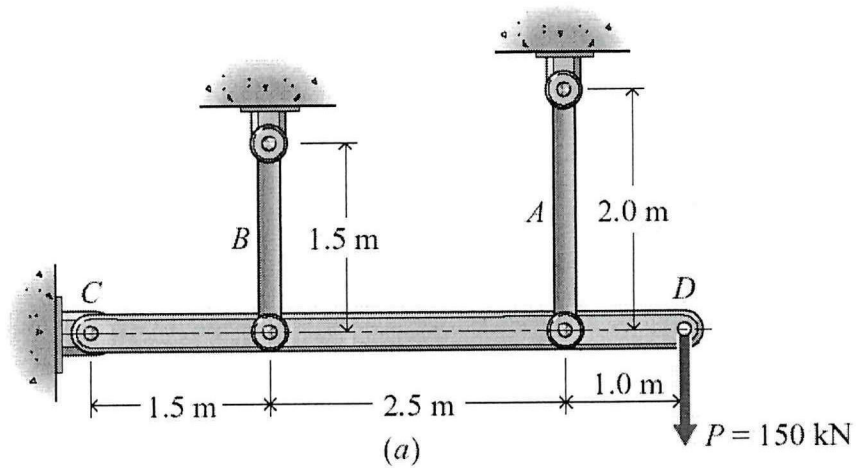

Figure Q1(b)
- (b) A pin connected structure is loaded and supported as shown in **Figure Q1(b)**. Member CD is rigid and is horizontal before the load P is applied. Member A is an aluminum alloy bar with a modulus of elasticity of 75 GPa and a cross sectional area of 1000 mm². Member B is a structural steel bar with a modulus elasticity of 200 GPa and a cross sectional area of 500 mm².